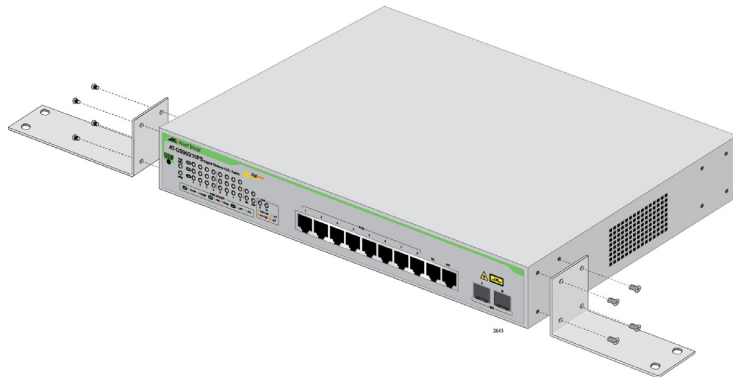

Figure 23. Attaching the Brackets to Install the Switch on a Wall
3. Orient the brackets against the sides of the switch as shown in Figure 23, and secure them to the unit with the eight brackets screws included with the switch.